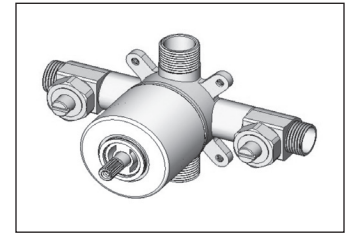

Figure 1
1. After wall is finished, remove the plaster guard from the valve unit. Take the trim sleeve from the trim pack and slide it over the valve unit, seating it flush with the cartridge (see **Figure 1**).